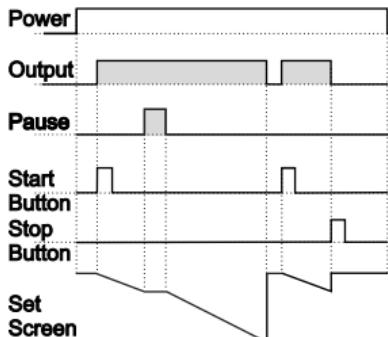

Figure 1.1
1.1.1 If downcount **dEct**=1 and **outF** is **o-n** the control diagram is shown in Figure 1.1